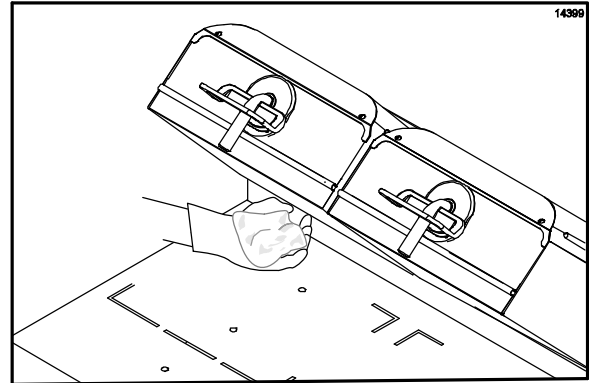

Figure 59
32. Clean the surrounding areas such as the hood, bull nose, and back splash, with a clean, sanitizer-soaked grill cloth. (See Figure 59.)